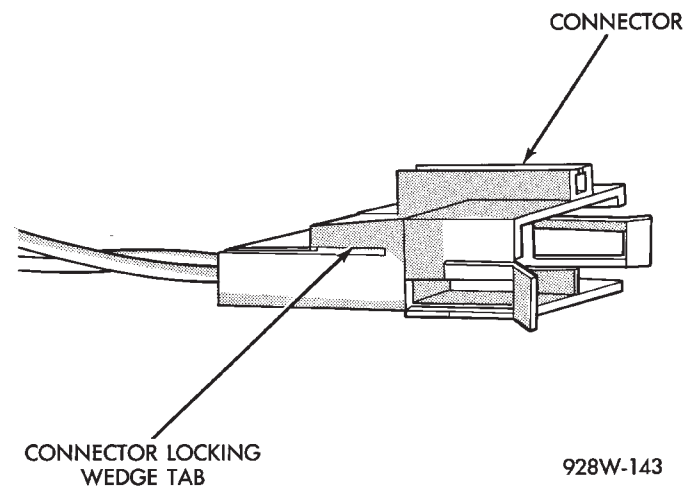

Fig. 15 Connector Locking Wedge
- (1) Disconnect battery.
- (2) Disconnect the connector that is to be repaired from its mating half/component
- (3) Remove the connector locking wedge, if required (Fig. 15)